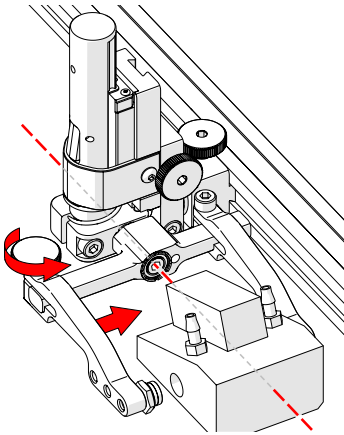

Fig. 146 - Adjust outer arm
5. Loosen the probe holder arm adjustment knob (Fig. 146) and slide the probe holder arm along the yoke pinching the wedge in place.